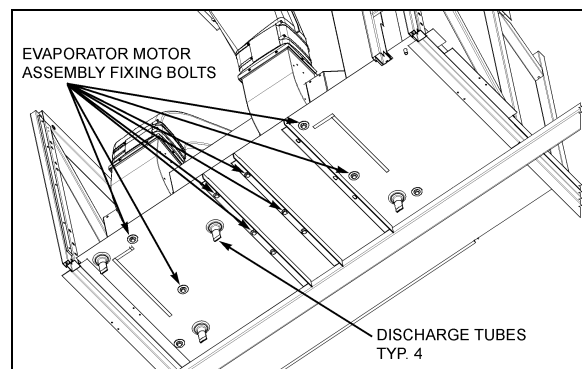

FIGURE 26: EVAPORATOR MOTOR BOLTS
- From under the vehicle, remove the eight bolts retaining the evaporator fan motor support. Remove the complete unit from the evaporator compartment (Fig. 26 & 27).